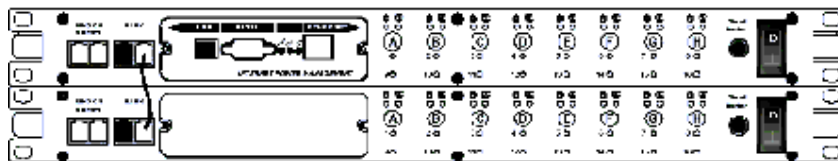

Figure 2 - First and second RPM
- Make sure that the second RPM has the Terminator plugged into the iLink port (see Figure 2).